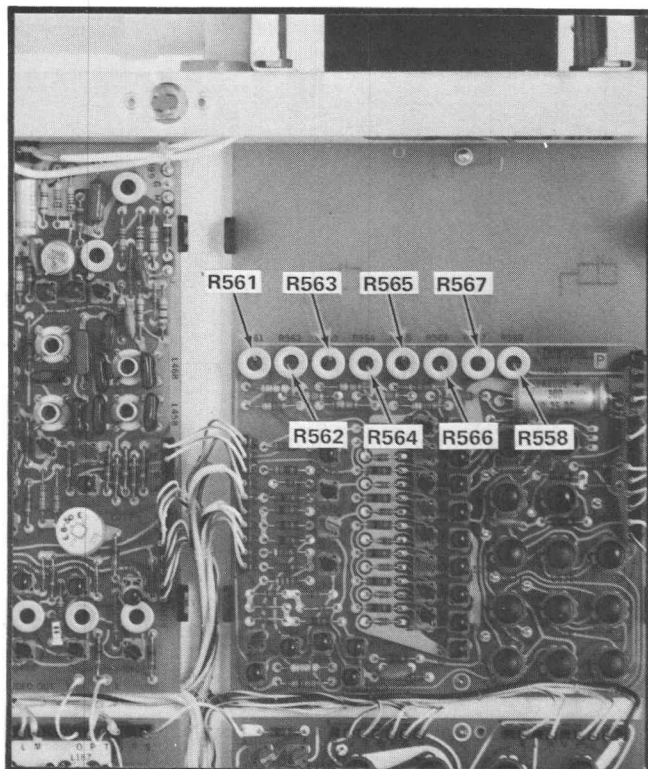

Fig. 6-13. Staircase board adjustment locations.
c. Set the V2 Volts control for 285.7 mV then ADJUST—R567 (see Fig. 6-13) for a sync amplitude of 285.7 mV.
c. Using Table 6-3 and Fig. 6-13 as a guide, CHECK or ADJUST the staircase levels for 71.4 mV, ±3% between the 10 step levels.
d. Set the V2 Volts control for 143 mV then ADJUST—R561 (see Fig. 6-13) until the peaks of the envelopes just meet.